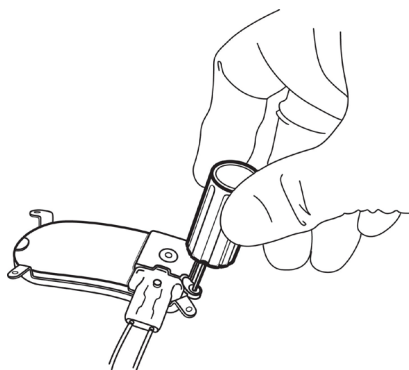

Figure 11: The ferrule clamp securing the neurostimulator to the ferrule.
10. Rotate the ferrule clamp so that it engages the neurostimulator then fully tighten the ferrule clamp screw until the torque driver clicks (Figure 11 on page 32).